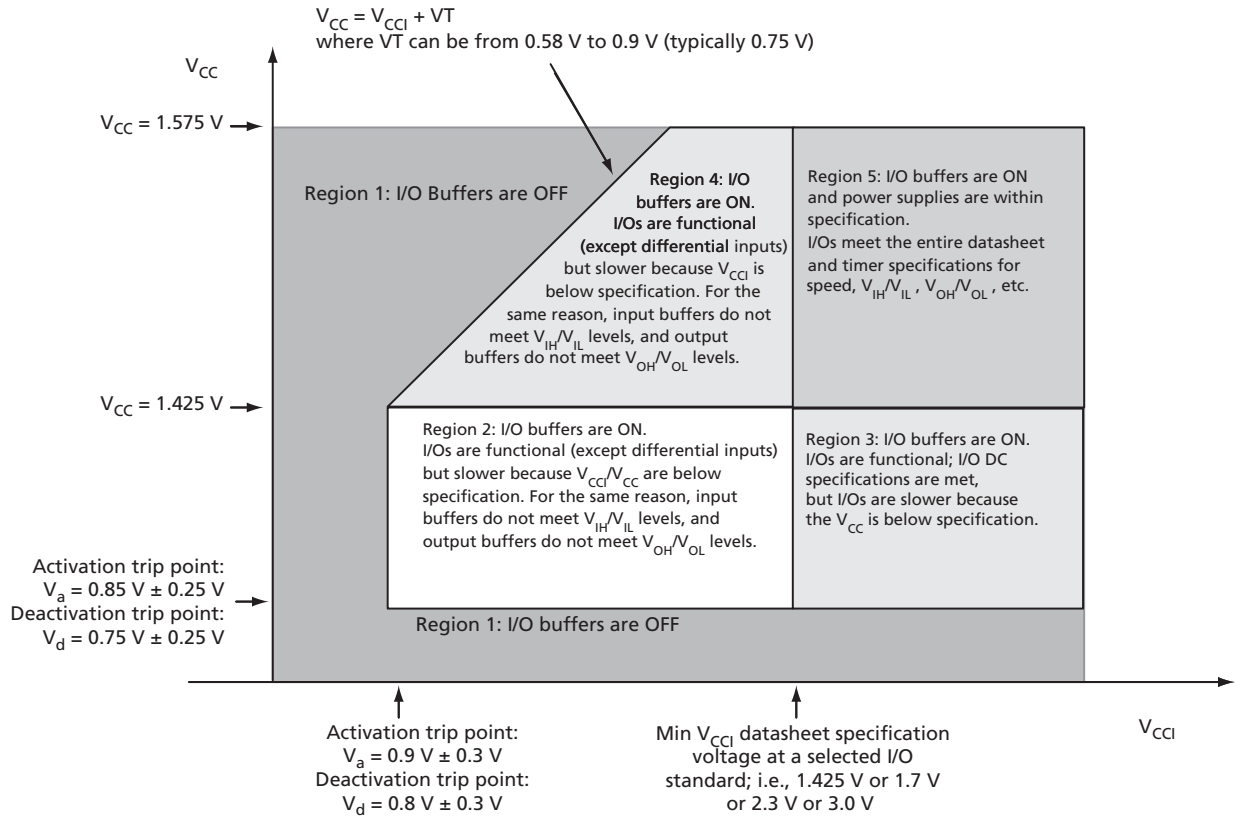

Figure 2-2 • I/O State as a Function of V_{CCI} and V_{CC} Voltage Levels
Sophisticated power-up management circuitry is designed into every ProASIC[®]3 device. These circuits ensure easy transition from the powered-off state to the powered-up state of the device. The many different supplies can power up in any sequence with minimized current spikes or surges. In addition, the I/O will be in a known state through the power-up sequence. The basic principle is shown in Figure 2-2 on page 2-4.
1. V_{CC} and V_{CCI} are above the minimum specified trip points (Figure 2-2 on page 2-4).